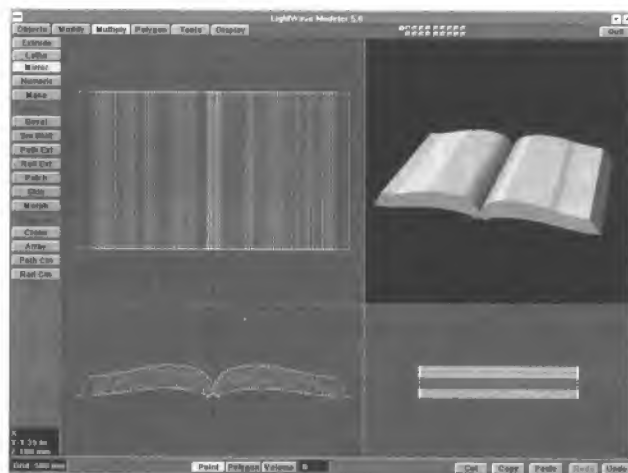

Figure 3
•Lastly, drag the five left top points down to create a stronger curve near the center of the book. Your final curved book page should look like figure 3. Save the object as BOOK_2.LWO.